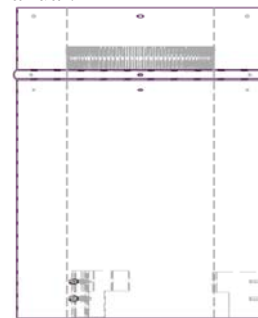

Figure 22: Roof Jack Outdoor Extension Pipes
4. The outdoor extension, shown in Figure 22 has a 4 inch dia pipe is fastened to the inside the 7 inch dia pipe. The extension is used when the roof jack crown assembly must be extended because of snow line, the roof peak or other obstructions. The extension is available in a 16 inch length. Refer to accessories parts list in the Service and Maintenance Manual.
To install the roof jack RJS 3/12 series on roofs which have a slope between 4.5/12 and 6/12 you must first install roof saddle. The combined assembly of the RJS roof jack and the roof saddle conform to the pitch of the roof. If the roof pitch is greater than 6/12, then the installer will be responsible for providing a suitable field fabricated roof saddle. Refer to Figure 22: